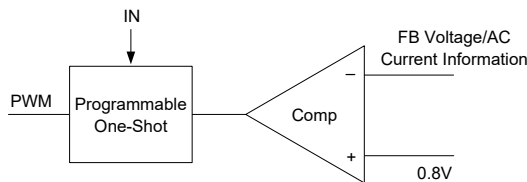

Figure 4. Simplified Control Schematic of AOZ2152TQI-19
The control algorithm of AOZ2152TQI-19 is constant-on-time PWM control with input feed-forward. The simplified control schematic is shown in Figure 4. The high-side switch on-time is determined solely by a one-shot whose pulse width is inversely proportional to input voltage (IN). The one-shot is triggered when the internal 0.8V is higher than the combined information of FB voltage and the AC current information of inductor, which is processed and obtained through the sensed lower-side MOSFET current once it turns-on. The added AC current information can help the stability of constant-on time control even with pure ceramic output capacitors, which have very low ESR. The AC current information has no DC offset, which does not cause offset with output load change, which is fundamentally different from other V^2 constant-on time control schemes.